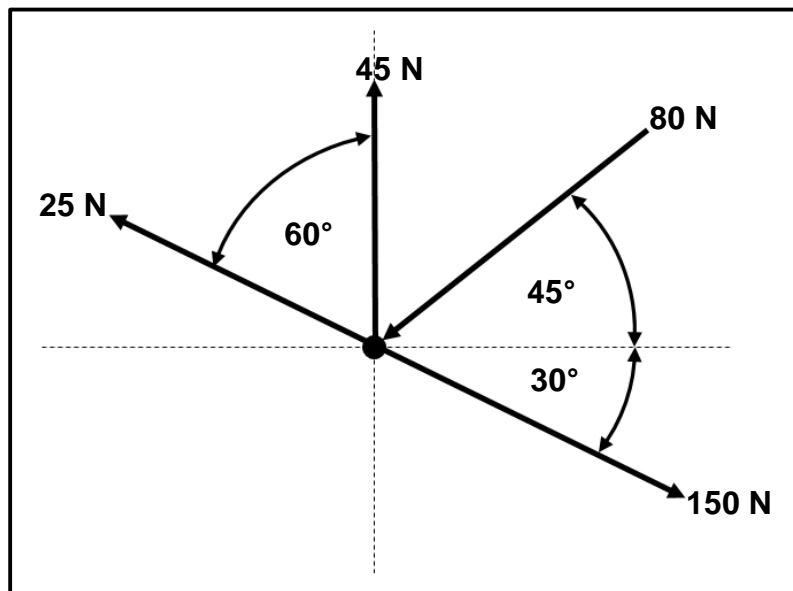

FIGURE 8.1
- 8.1 FIGURE 8.1 below shows a system of THREE pulling forces and ONE pushing force acting on the same point.
HINT: Draw and complete the diagram in FIGURE 8.1. Show ALL the horizontal and vertical components before you do the calculation.